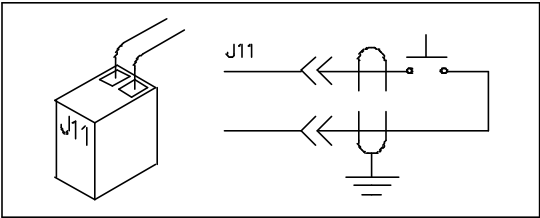

Figure 10-1 Remote Key Connection
The indicator provides connections for one remote key or momentary switch closure. Closing the connection will initiate the pre-selected remote operation. The remote key connection is located on connector J11. See figure 10-1.
4. Refer to Table 10-1, Remote Key Selections, to determine the required function for your remote key application. See figure 10-1 for Remote Key connections.